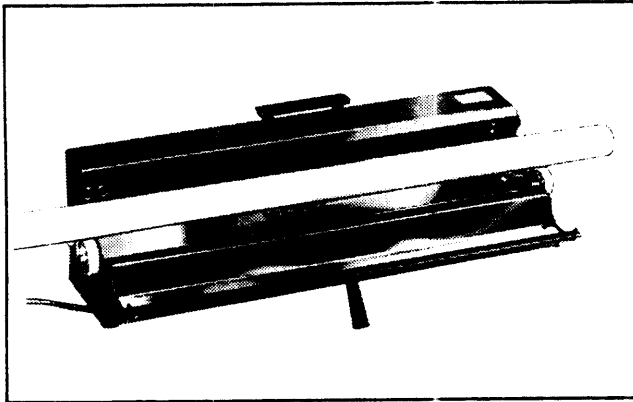

Figure 3
2. **Heating PVC** - For best results, test for the best heating time using a few pieces of scrap PVC. With all materials at hand lower the door of the unit until it is fully open. Lay first section of PVC between the pairs of guide rollers on either end of the unit as shown in Fig. 3. The section of PVC you wish to bend must be centered within the unit. Keep door of unit closed during the heating process.